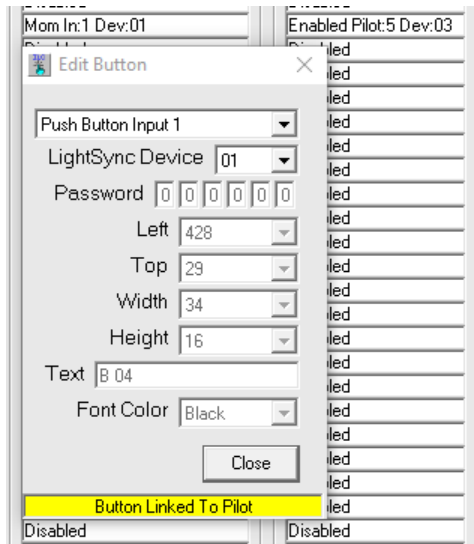

Figure 7 Button Linked To Pilot
6. Click on the corresponding Button line and edit the button for the input and device. The button will default to the first button and first device number. You can select the same device and button as the pilot, or a different control device and button point as needed. See Figure 7.